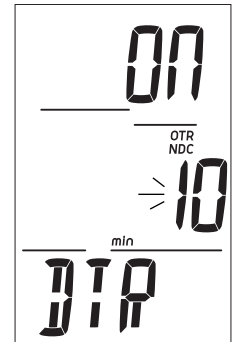

Fig. 24 - Set DTR AL
**Set DTR Alarm**, information includes (Fig. 24):